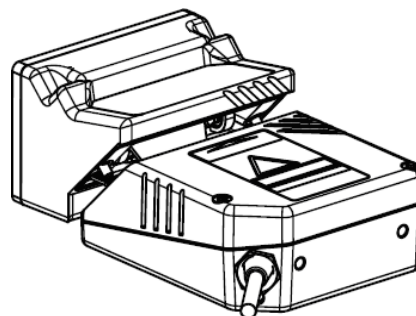

Figure 4
- 4) Check that the seal is correctly positioned and then after having aligned the OM-VB14N onto the scanner, fix it using the two screws (see Figure 4).